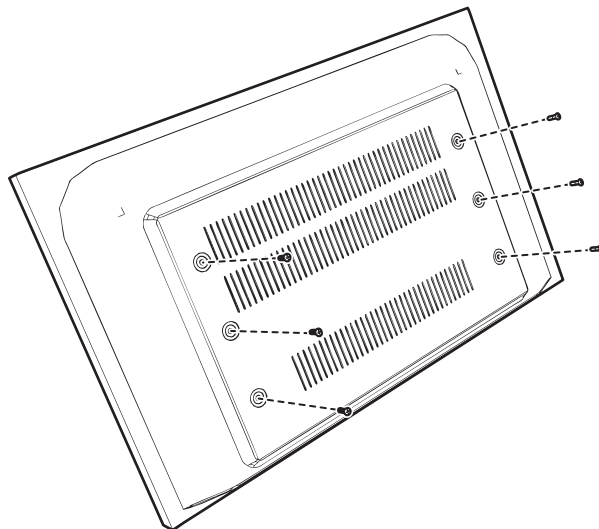

Figure 2. Removing the Screws from the Monitor
1. Refer to Figure 2. Remove the 6 screws from the back of the monitor.